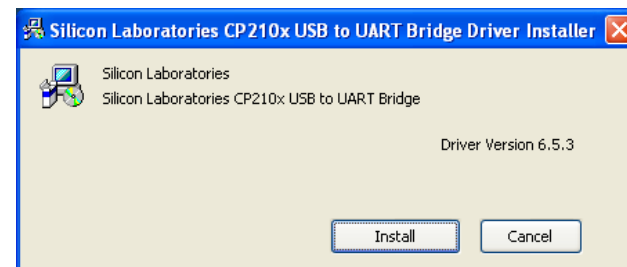

Figure 4 – Final VCP driver install window.
- Click on **Finish** to bring up the final VCP driver install window (Figure 4).